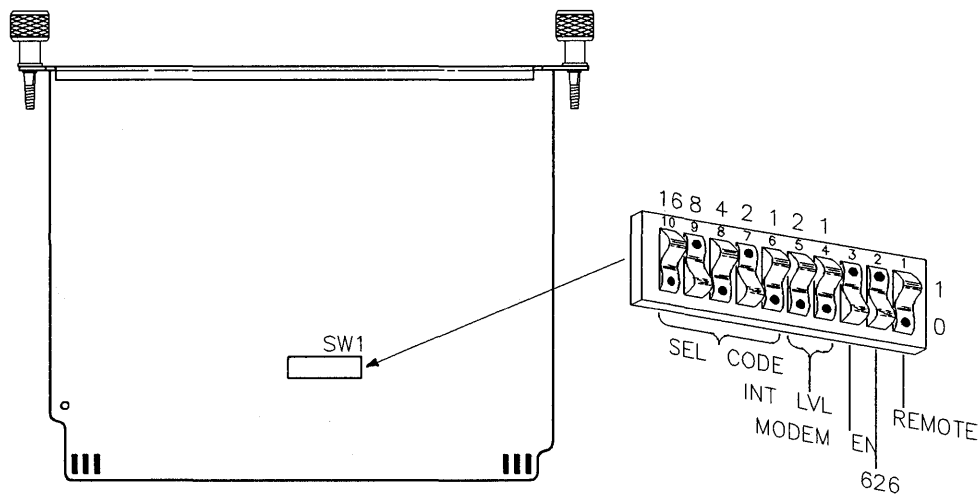

Figure 10-10. HP 98644A RS-232-C Interface Switch Locations
Refer to Figure 10-10 for switch locations.
2. Find the group of switches labeled SW1 by referring to Figure 10-10. Switches 6 through 10 in this group determine the select code.
1. Find the group of switches labeled SW1 by referring to Figure 10-10. Switches 4 and 5 in this group determine the interrupt level.
1. Find the group of switches labeled SW1 by referring to Figure 10-10. Switch 3 in this group is the MODEM ENable switch.
- If you intend to connect an HP 2601A printer, an HP 2686A Laserjet printer, an HP 92205A/C Hayes Smartmodem, or a controller, set this switch to *1* as shown in Figure 10-10.
- If you intend to connect a terminal or the HP 39800/01A bar code reader, set this switch to *0*, which is *opposite* that shown in Figure 10-10.
1. Find the group of switches labeled SW1 by referring to Figure 10-10. Switch 2 in this group is the 626 switch.
2. Set the 626 switch to *1* as shown in Figure 10-10.
1. Find the group of switches labeled SW1 by referring to Figure 10-10. Switch 1 in this group is the Remote switch.
- If you are connecting a terminal to this interface and want this terminal to be the system console, set this switch to *1*, which is *opposite* that shown in Figure 10-10.
- If you are connecting a terminal to this interface but *do not* want this terminal to be the system console, or if you are connecting any other device, set this switch to *0* as shown in Figure 10-10.